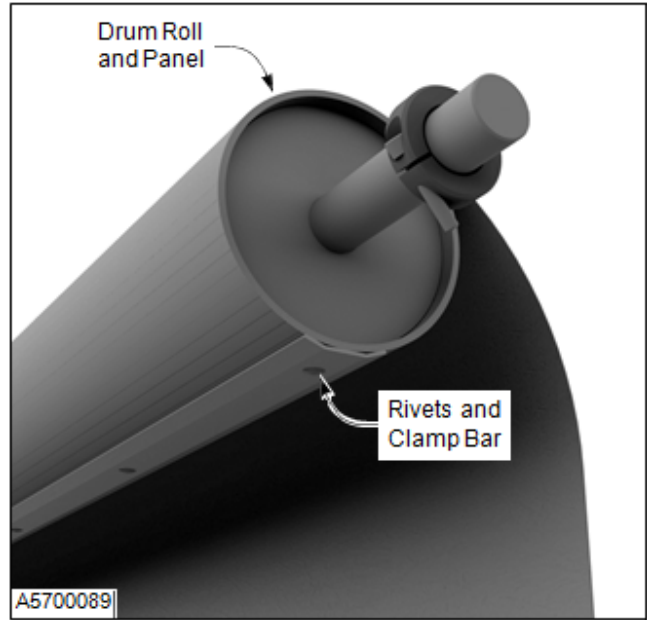

Figure 49
7. Drill out the rivets from the clamp bar and remove the drum roll panel. (See Figure 49)